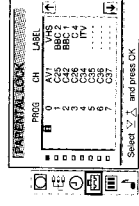

Fig. 25
- 3 Select »Parental Lock« with Δ+ or ∇- and press OK. The PARENTAL LOCK menu appears. (See Fig. 25.)